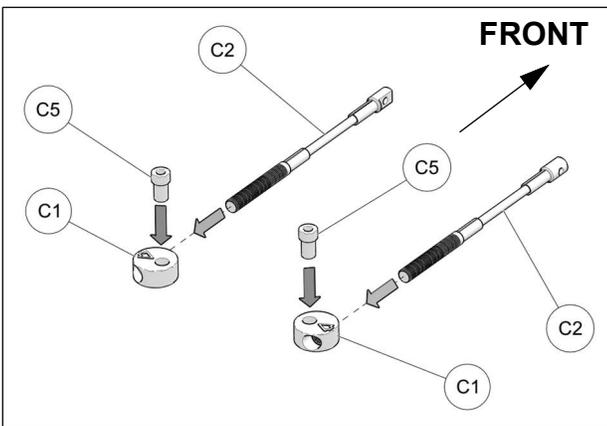

Fig. 25
12. Assemble steering limiter cables (C2), aluminum disks (C1) and step spacers (C5) together as shown on Fig. 25